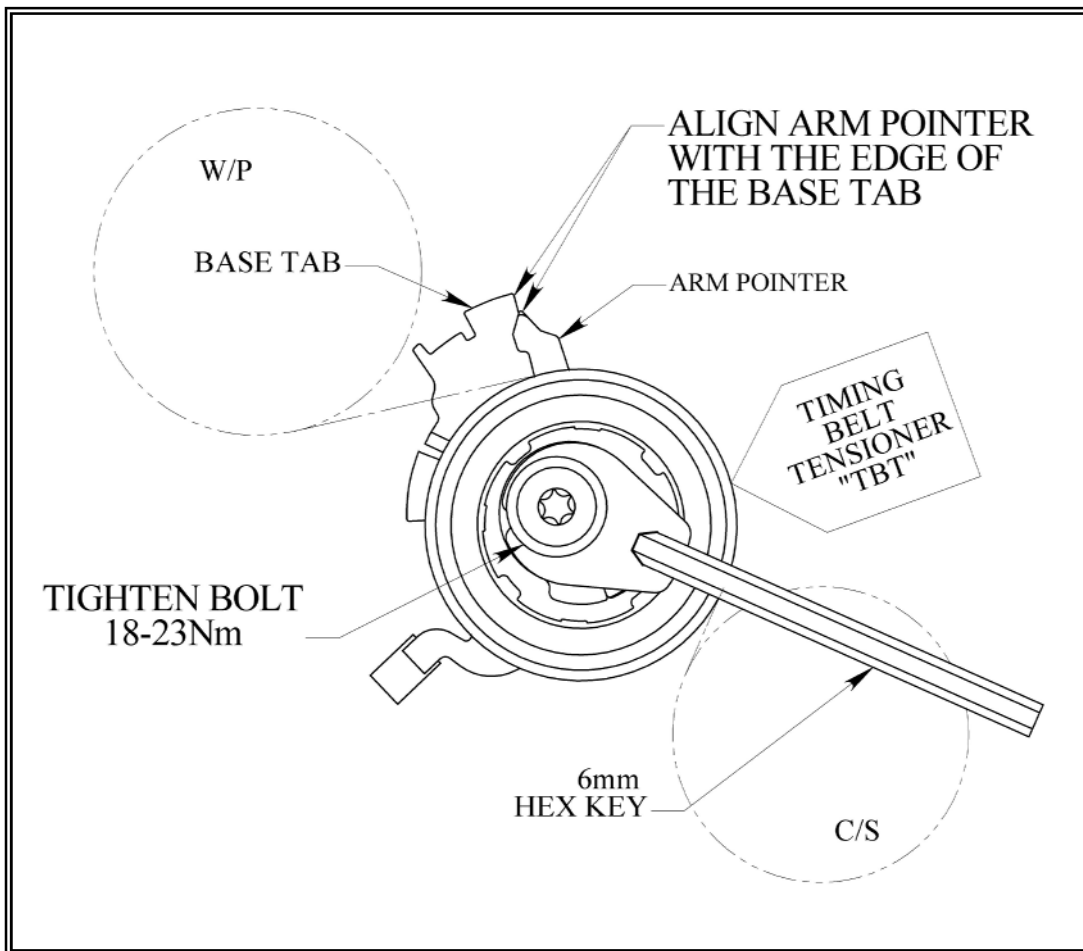

Fig. 8: Initial setup of the TBT during installation.
8. Continue rotating the Installation Shaft until the Arm Pointer aligns with the right-hand edge of the Base Tab, then lock the tensioner in this position by torquing the Torx Bolt to **18~23 Nm** (See Fig. 8).
10. Rotate the crankshaft two (2) complete revolutions **clockwise manually** for proper seating of the belt until the crankshaft is aligned with the corresponding mark on the engine block. Check the following: